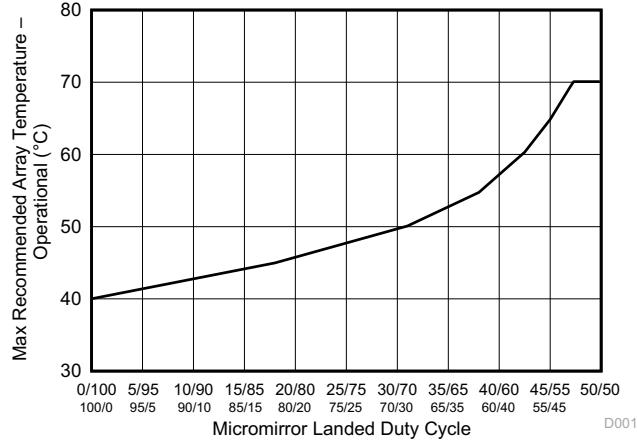

图 6-1. Maximum Recommended Array Temperature - Derating Curve
- (12) Per Figure 6-1, the maximum operational array temperature should be derated based on the micromirror landed duty cycle that the DMD experiences in the end application. Refer to § 7.7 for a definition of micromirror landed duty cycle.
- (13) Long-term is defined as the usable life of the device.
- (14) Short-term is the total cumulative time over the useful life of the device.
- (15) The maximum marginal ray angle of the incoming illumination light at any point in the micromirror array, including at the pond of micromirrors (POM), should not exceed 55 degrees from the normal to the device array plane. The device window aperture has not necessarily been designed to allow incoming light at higher maximum angles to pass to the micromirrors, and the device performance has not been tested nor qualified at angles exceeding this. Illumination light exceeding this angle outside the micromirror array (including POM) will contribute to thermal limitations described in this document and may negatively affect lifetime.